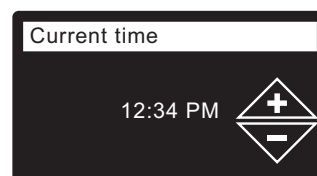

FIG. 29
11. **CURRENT TIME** Press the DOWN (▼) or UP (▲) buttons to set the current time (See Figure 29). Hold the button down to rapidly advance. Be sure that AM or PM is correct. If the system units were set to metric in Step 9, the clock will be in 24-hour format.
12. Press the SELECT (O) button.